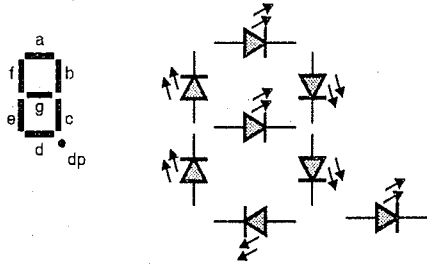

Fig. 10.5.3 : Structure of seven segment display (SSD)
- As shown in the Fig. 10.5.3 the seven segment display uses seven LEDs to make any digit. If all the LEDs are on, it shows the digit 8. There are two types SSDs available.